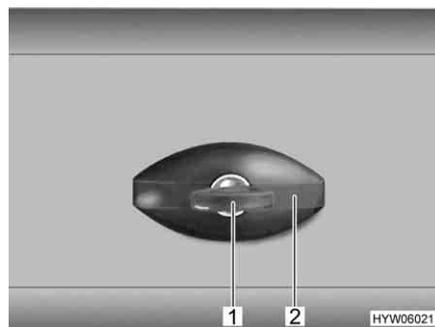

Fig. 62 Flap lock, elliptical-shaped, closed
- Insert key into locking cylinder (Fig. 62,1) and turn a quarter turn in an anti-clockwise direction. The lock handle (Fig. 62,2) snaps out.